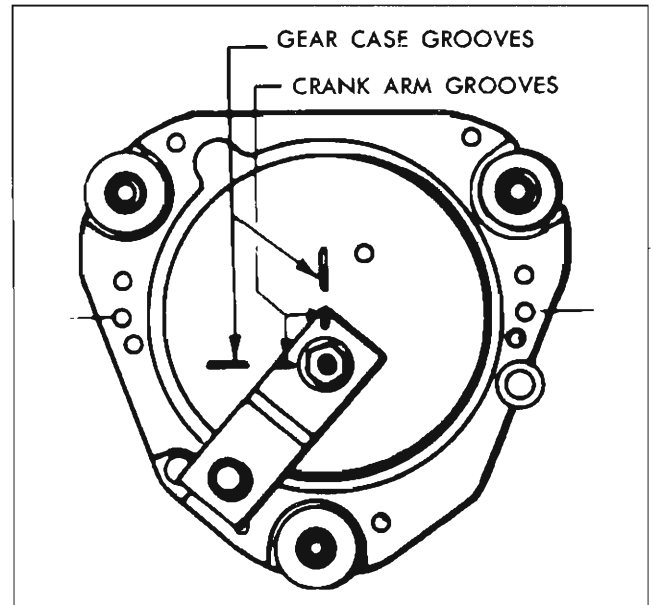

Fig. 55—Wiper Crank Arm in Park Position (Chevrolet)
2. Place wiper in park position and install crank arm on output shaft, rotate crank so alignment marks line up with those on cover (fig. 55).